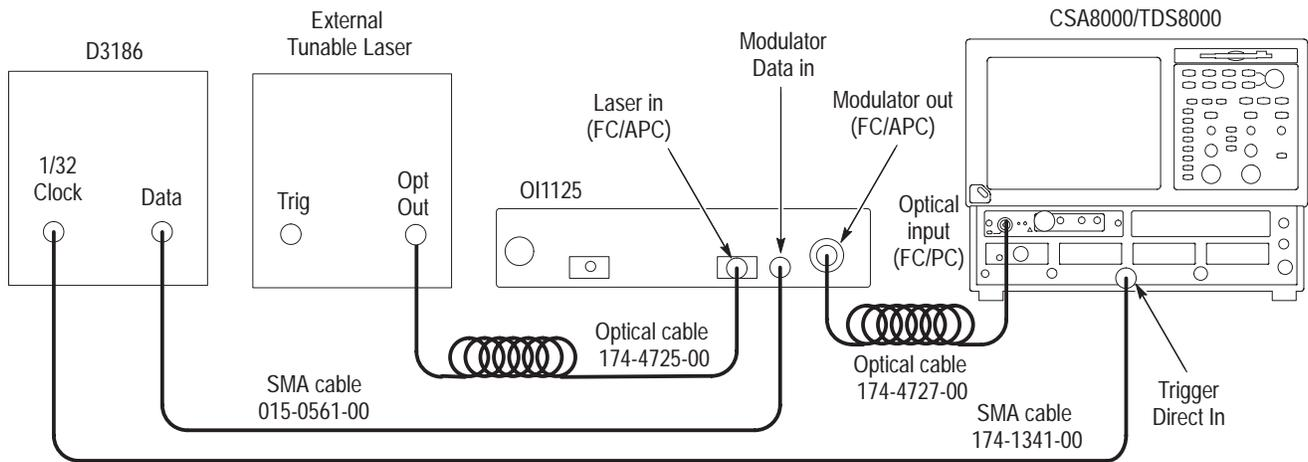

Figure 18: Setup for the eye pattern test matrix
Test Circuit. Connect the equipment as shown in Figure 18 on page 51:
3. The equipment is now connected as shown in Figure 18 on page 51.